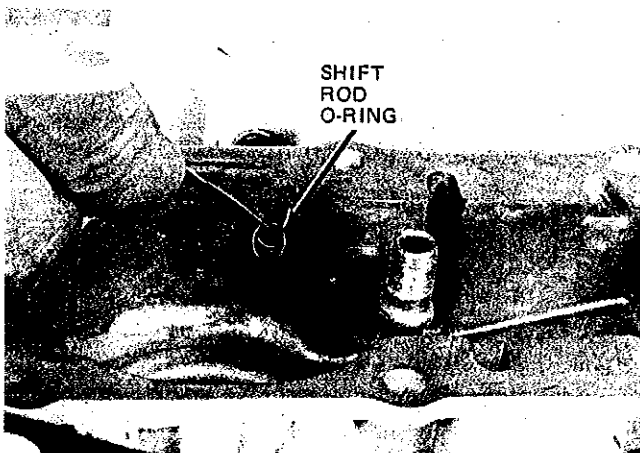
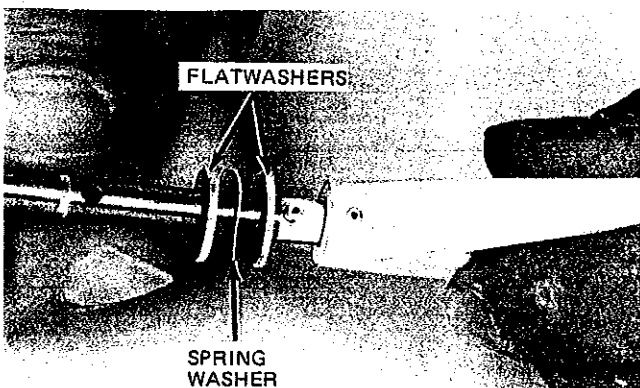
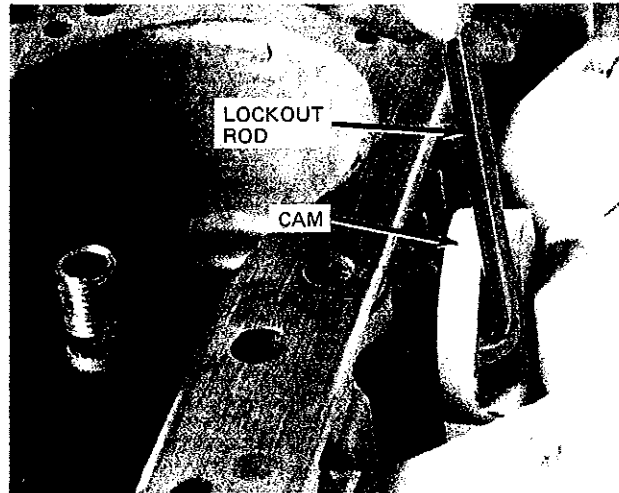
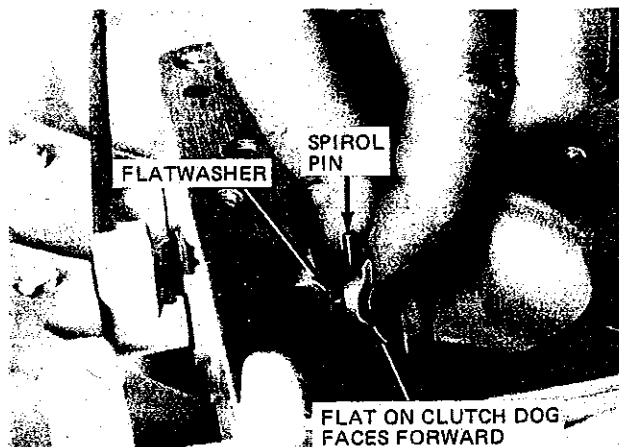

Figure 12
Figure 13
Figure 14
Figure 15
- (2) Install a new shift rod "O" ring in the column housing (Figure 12).
- (3) Install column top gasket and exhaust deflector on column housing.
- (4) Assemble shift rod, knob, flat washers and spring washers as shown in Figure 13.
- (5) Assemble lockout rod to cam. Secure with retaining ring.
- (6) Assemble cam and shift rod into carrier handle and column (Figure 14).
- (7) Line up holes in cam and shift rod and install spirol pin.
- (8) Install clutch dog and flat washer on shift rod as shown in Figure 15.